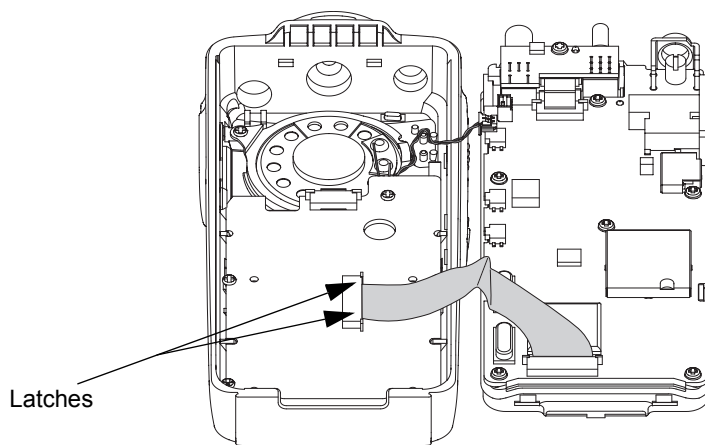

Figure 6-7. Unlatch the Flexible Cable
- e. Lay the front housing down. Rotate the chassis sideways from the Front Housing Assembly (1) and lay it down.
- f. Push the latches on the Front Circuit Board (41) sideways to the right to release the flexible cable from the connector. (Refer Figure 6-7).